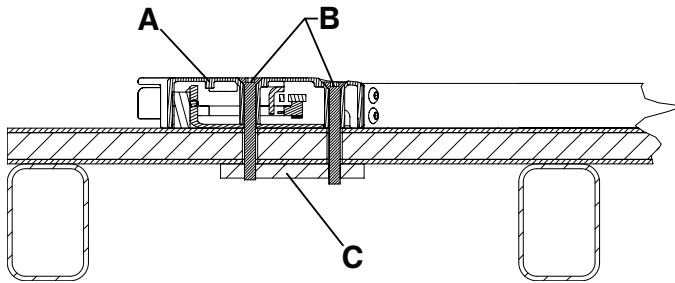
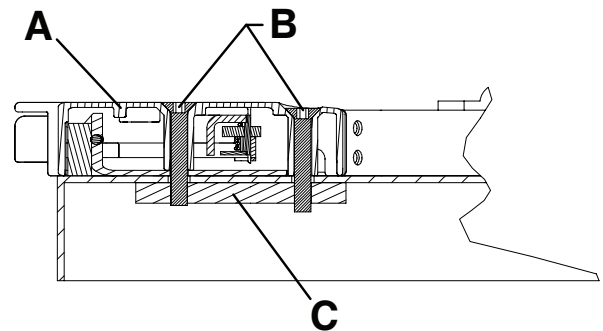

Figure 7 – Floor mount foot end - View 3A
Figure 8 – Tray mount foot end - View 3B
3. Anchor the foot end latch housing (A) to the floor or tray using four M8 flat head cap screws (B) (not supplied).
Note - A steel backing plate (C) (or equivalent) is required for added support (not supplied) (Figure 7 or Figure 8).